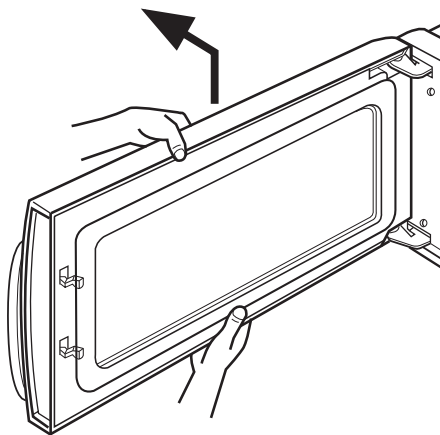

Figure 15
F. REMOVING DOOR (Figure 15)
- (1) Remove the vent grille by loosening the two screws securing it to the outer case.
- (2) Lift up and draw out the door.